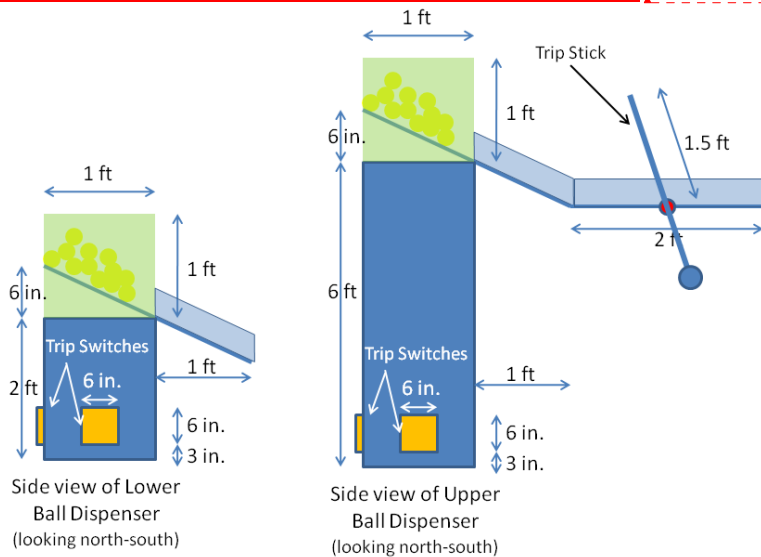

Figure 2: Schematic diagram (not to scale) of the ping pong ball dispensers.
9.1 Ping Pong Ball Dispensers. Figure 2 diagrams the lower and upper ping pong ball dispensers. *The chutes consist of vertical columns which have a 1-foot square cross section. The*